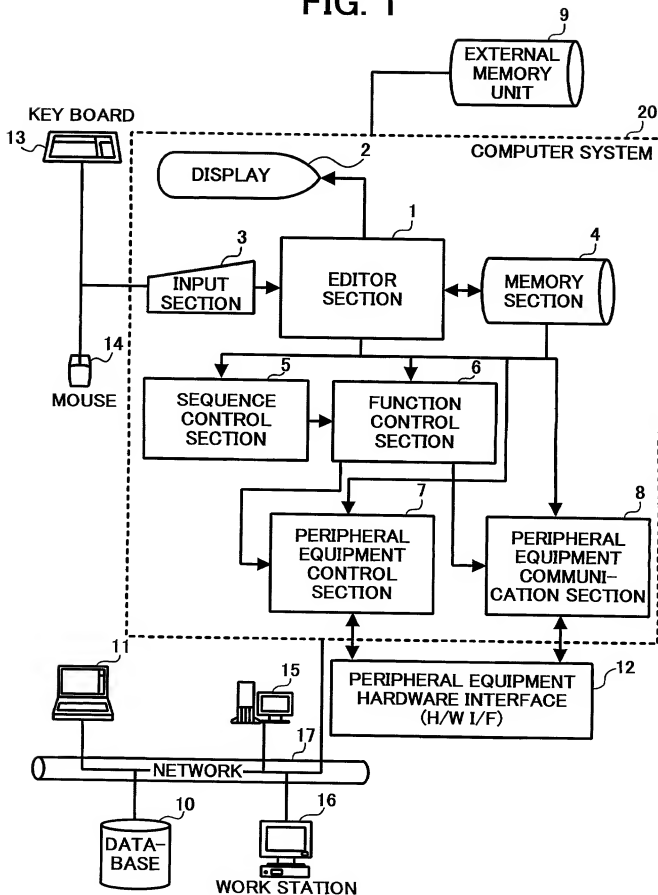

FIG. 1
Figure 1. Schematic representation of the experimental design. The subjects were divided into two groups: the control group (CG) and the experimental group (EG). The CG was divided into two subgroups: the control group (CG) and the control group (CG). The EG was divided into two subgroups: the experimental group (EG) and the experimental group (EG). The CG was divided into two subgroups: the control group (CG) and the control group (CG). The EG was divided into two subgroups: the experimental group (EG) and the experimental group (EG).